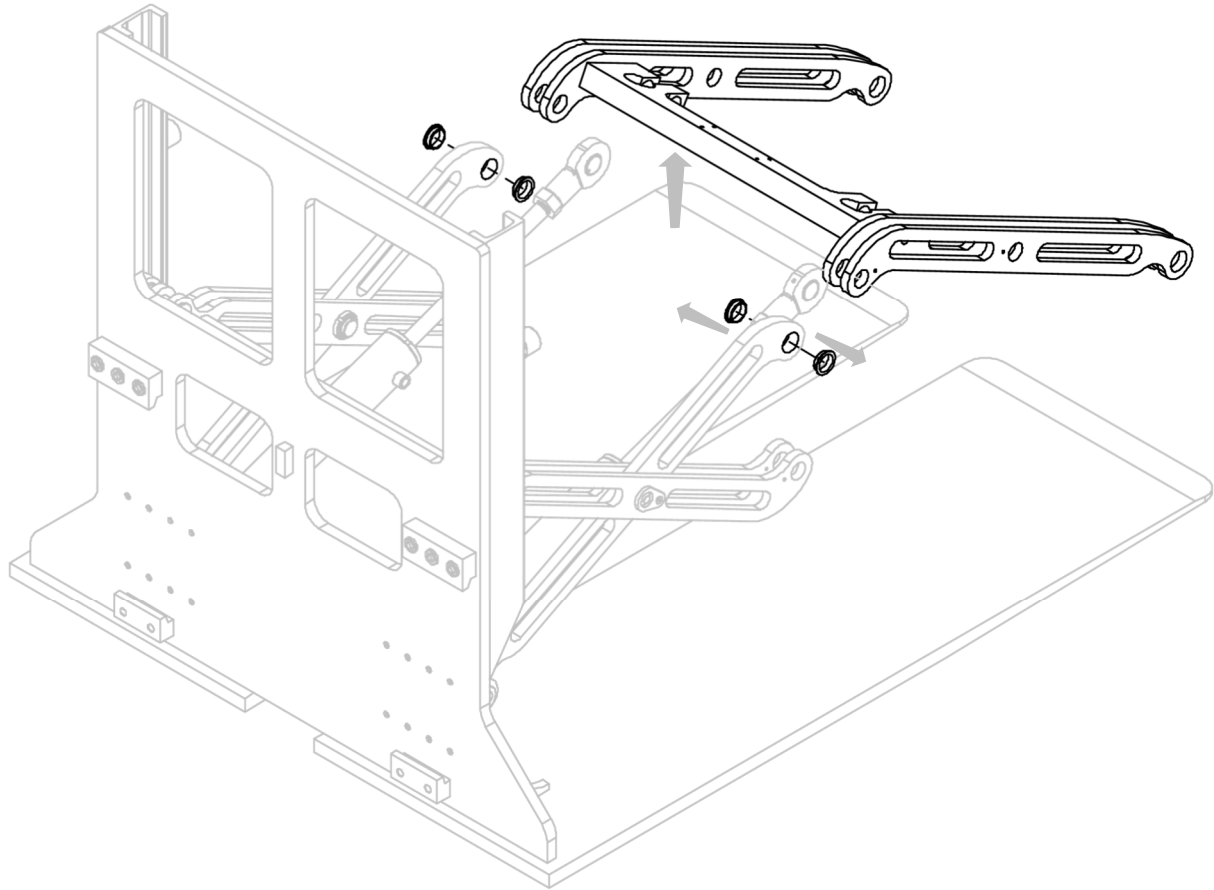

Figure 23
6. Remove the pair of arms from the equipment, with the relative swing bushes (see *Figure 23*).